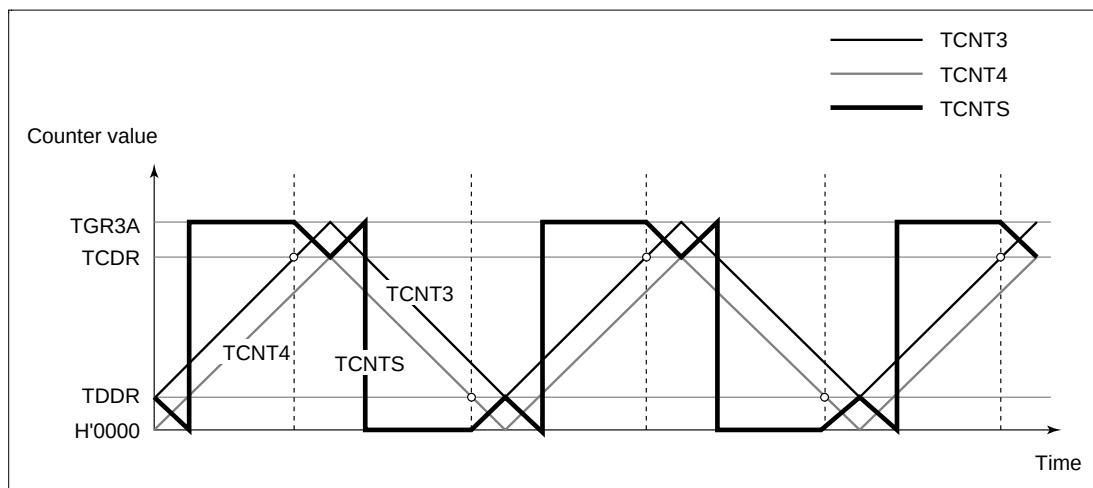
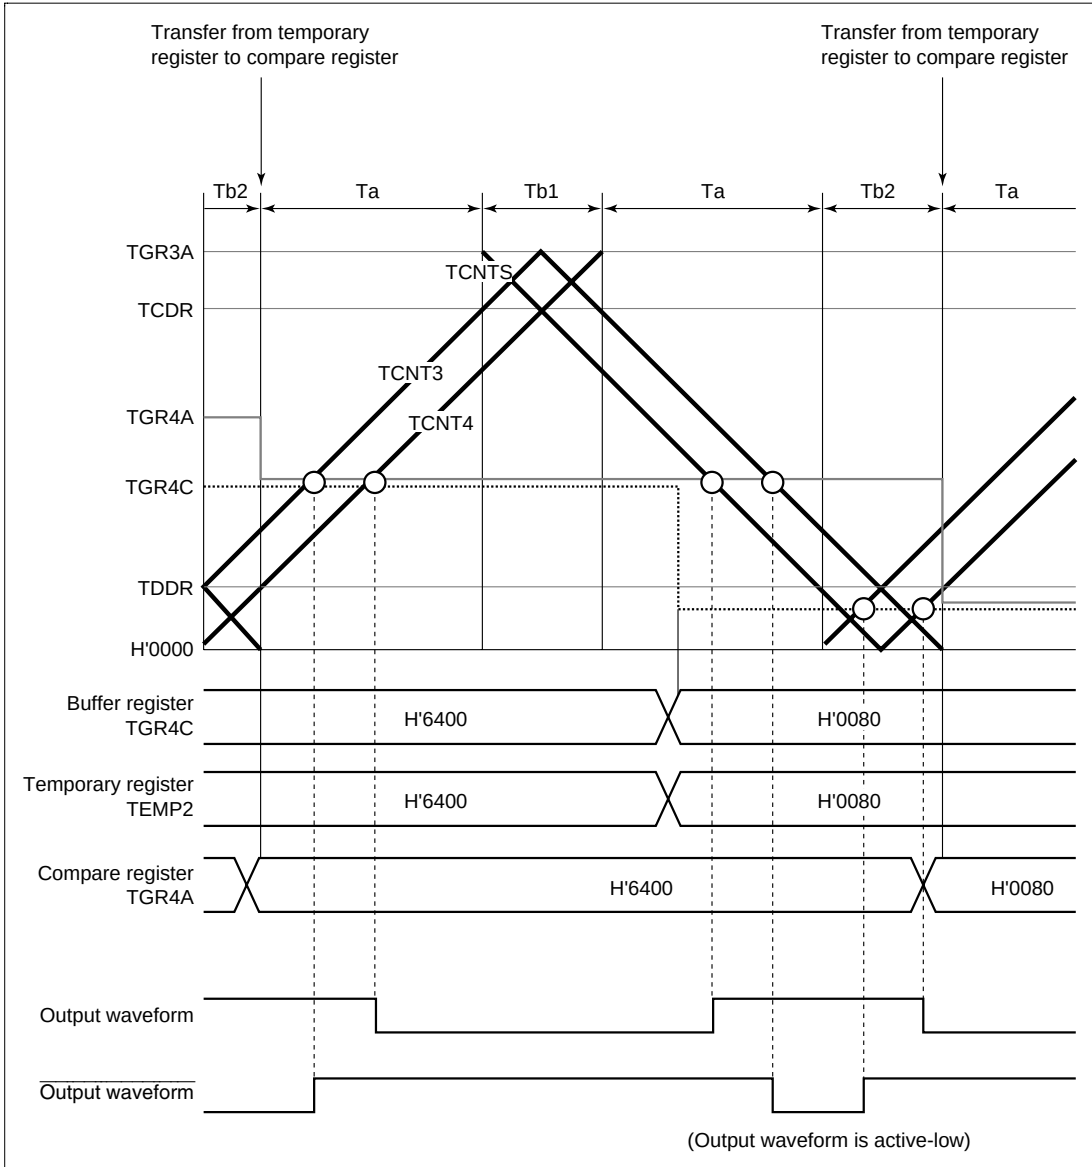

**Figure 12.39 Complementary PWM Mode Counter Operation**
**Figure 12.40 Example of Complementary PWM Mode Operation**
**Outline of Complementary PWM Mode Operation:** In complementary PWM mode, 6-phase PWM output is possible. Figure 12.39 illustrates counter operation in complementary PWM mode, and figure 12.40 shows an example of complementary PWM mode operation.
In complementary PWM mode, nine registers are used, comprising compare registers, buffer registers, and temporary registers. Figure 12.40 shows an example of complementary PWM mode operation.
The value transferred to a temporary register is transferred to the compare register when TCNTS for which the Tb interval ends matches TGR3A when counting up, or H'0000 when counting down. The timing for transfer from the temporary register to the compare register can be selected with bits MD3–MD0 in the timer mode register (TMDR). Figure 12.40 shows an example in which the mode is selected in which the change is made in the trough.
In the tb interval (tb2 in figure 12.40) in which data transfer to the temporary register is not performed, the temporary register has the same function as the compare register, and is compared with the counter. In this interval, therefore, there are two compare registers for one-phase output, with the compare register containing the pre-change data, and the temporary register containing the new data. In this interval, the three counters—TCNT3, TCNT4, and TCNTS—and two registers—compare register and temporary register—are compared, and PWM output controlled accordingly.